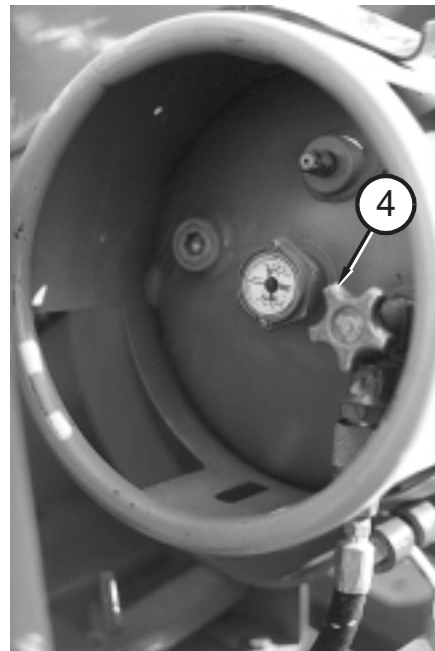

Figure 8.12
4. For **LP operation**: Completely open the valve **4** (see Figure 8.12) on top of the LP tank (unscrew counterclockwise until it stops).